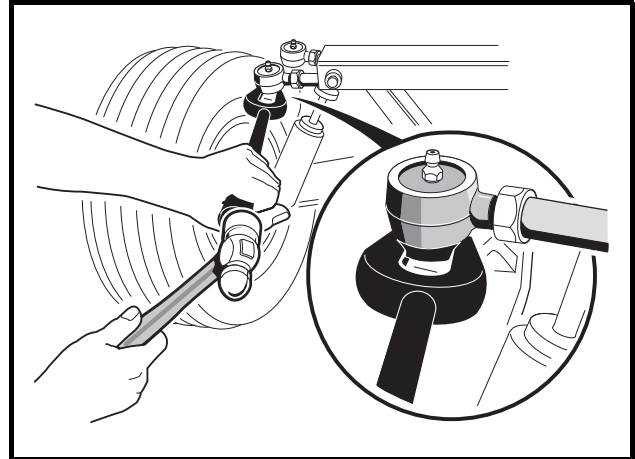
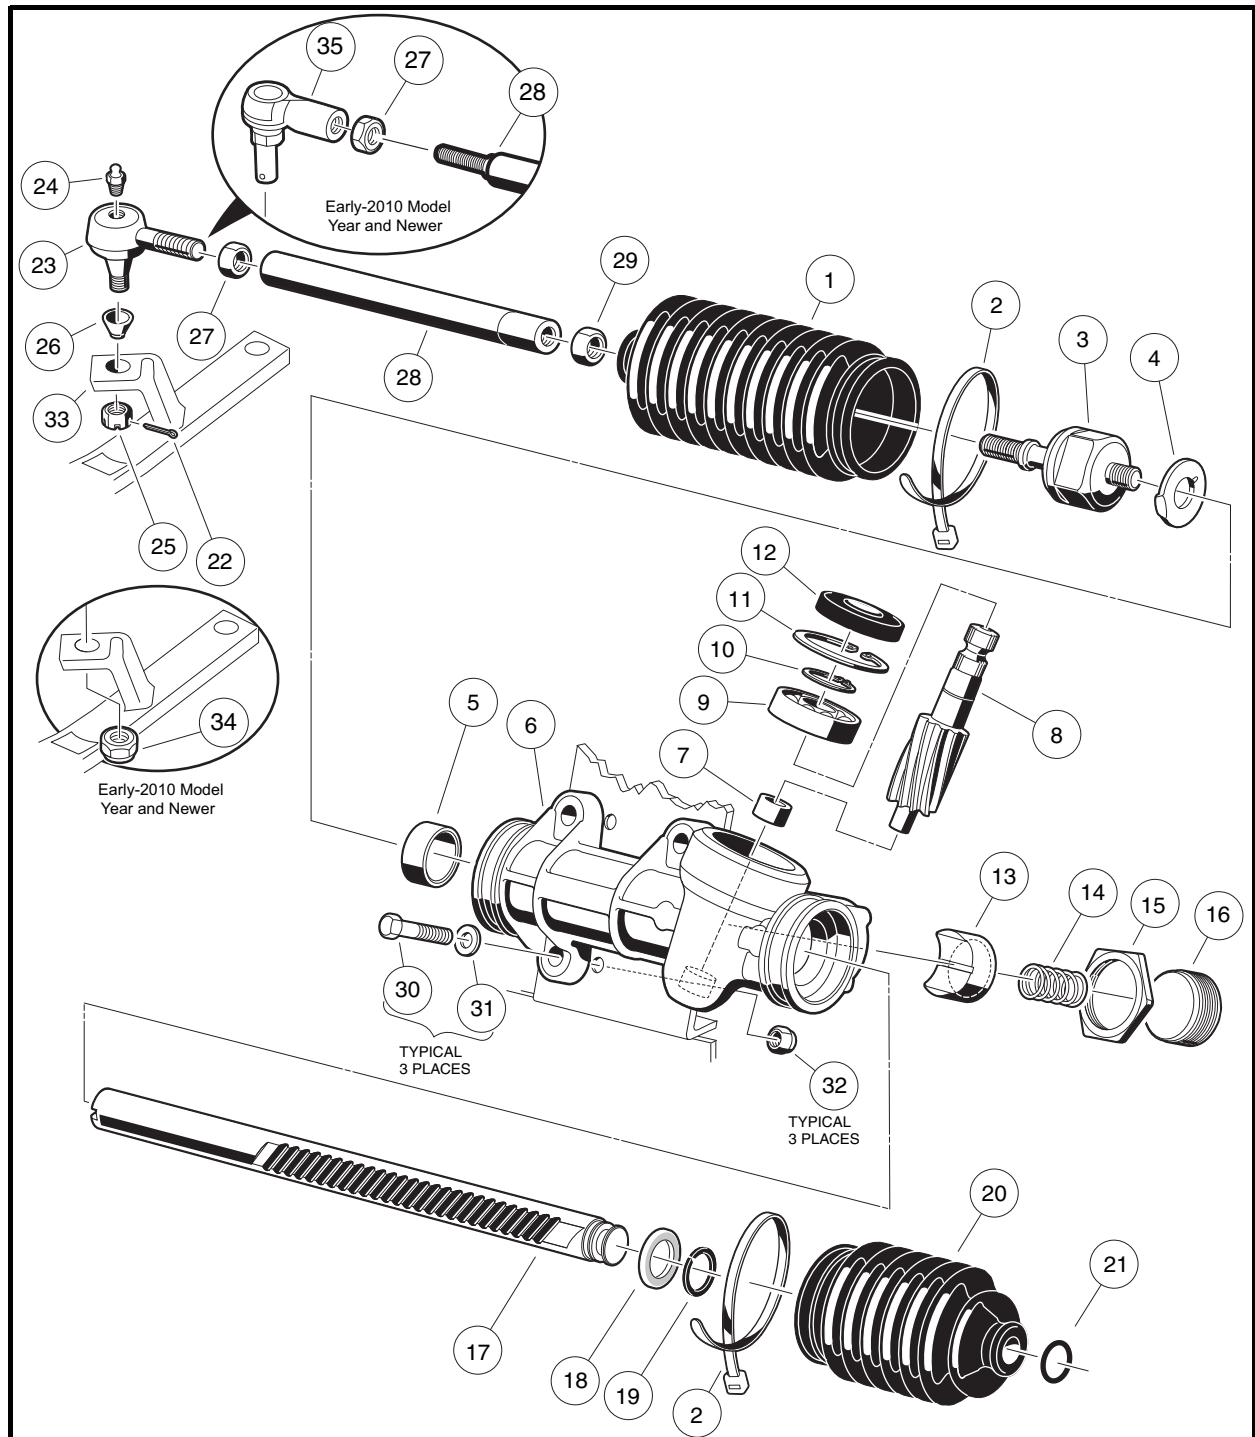
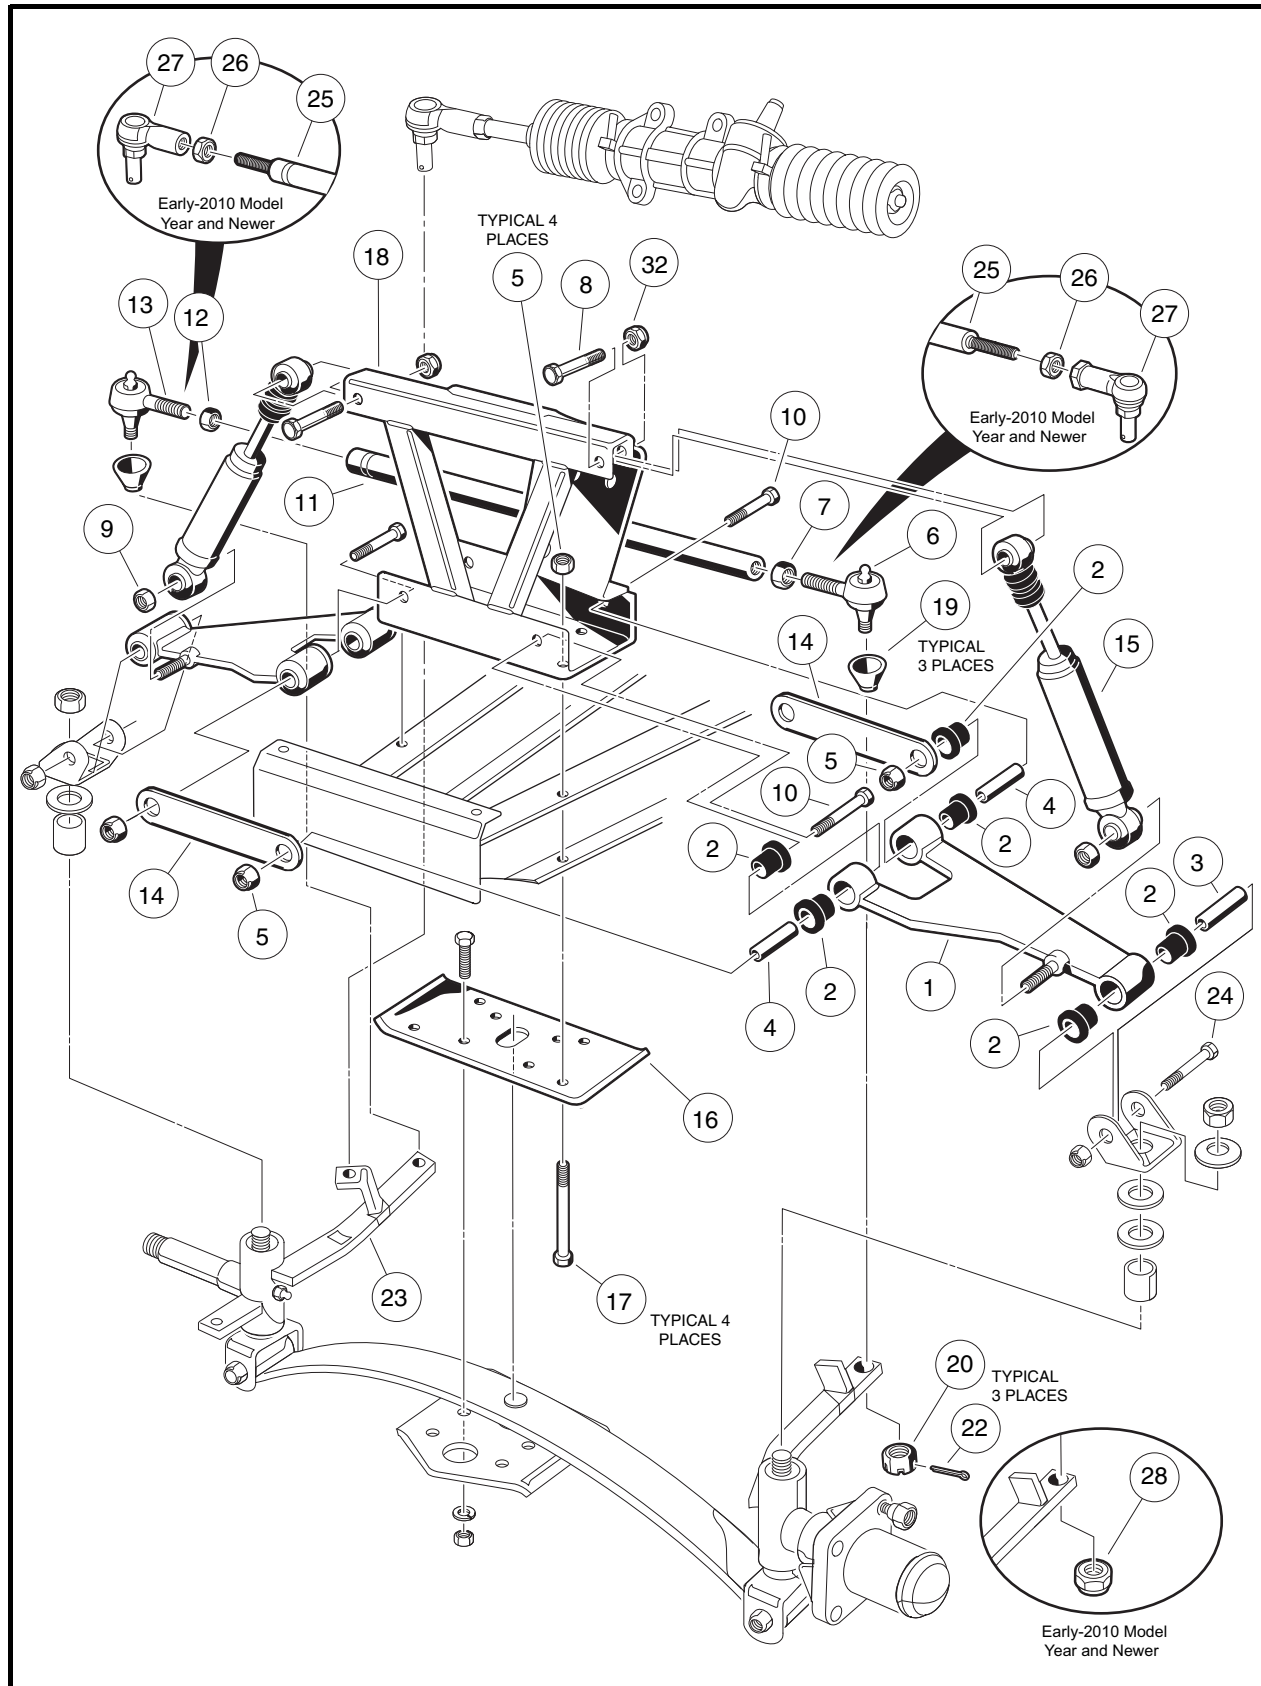
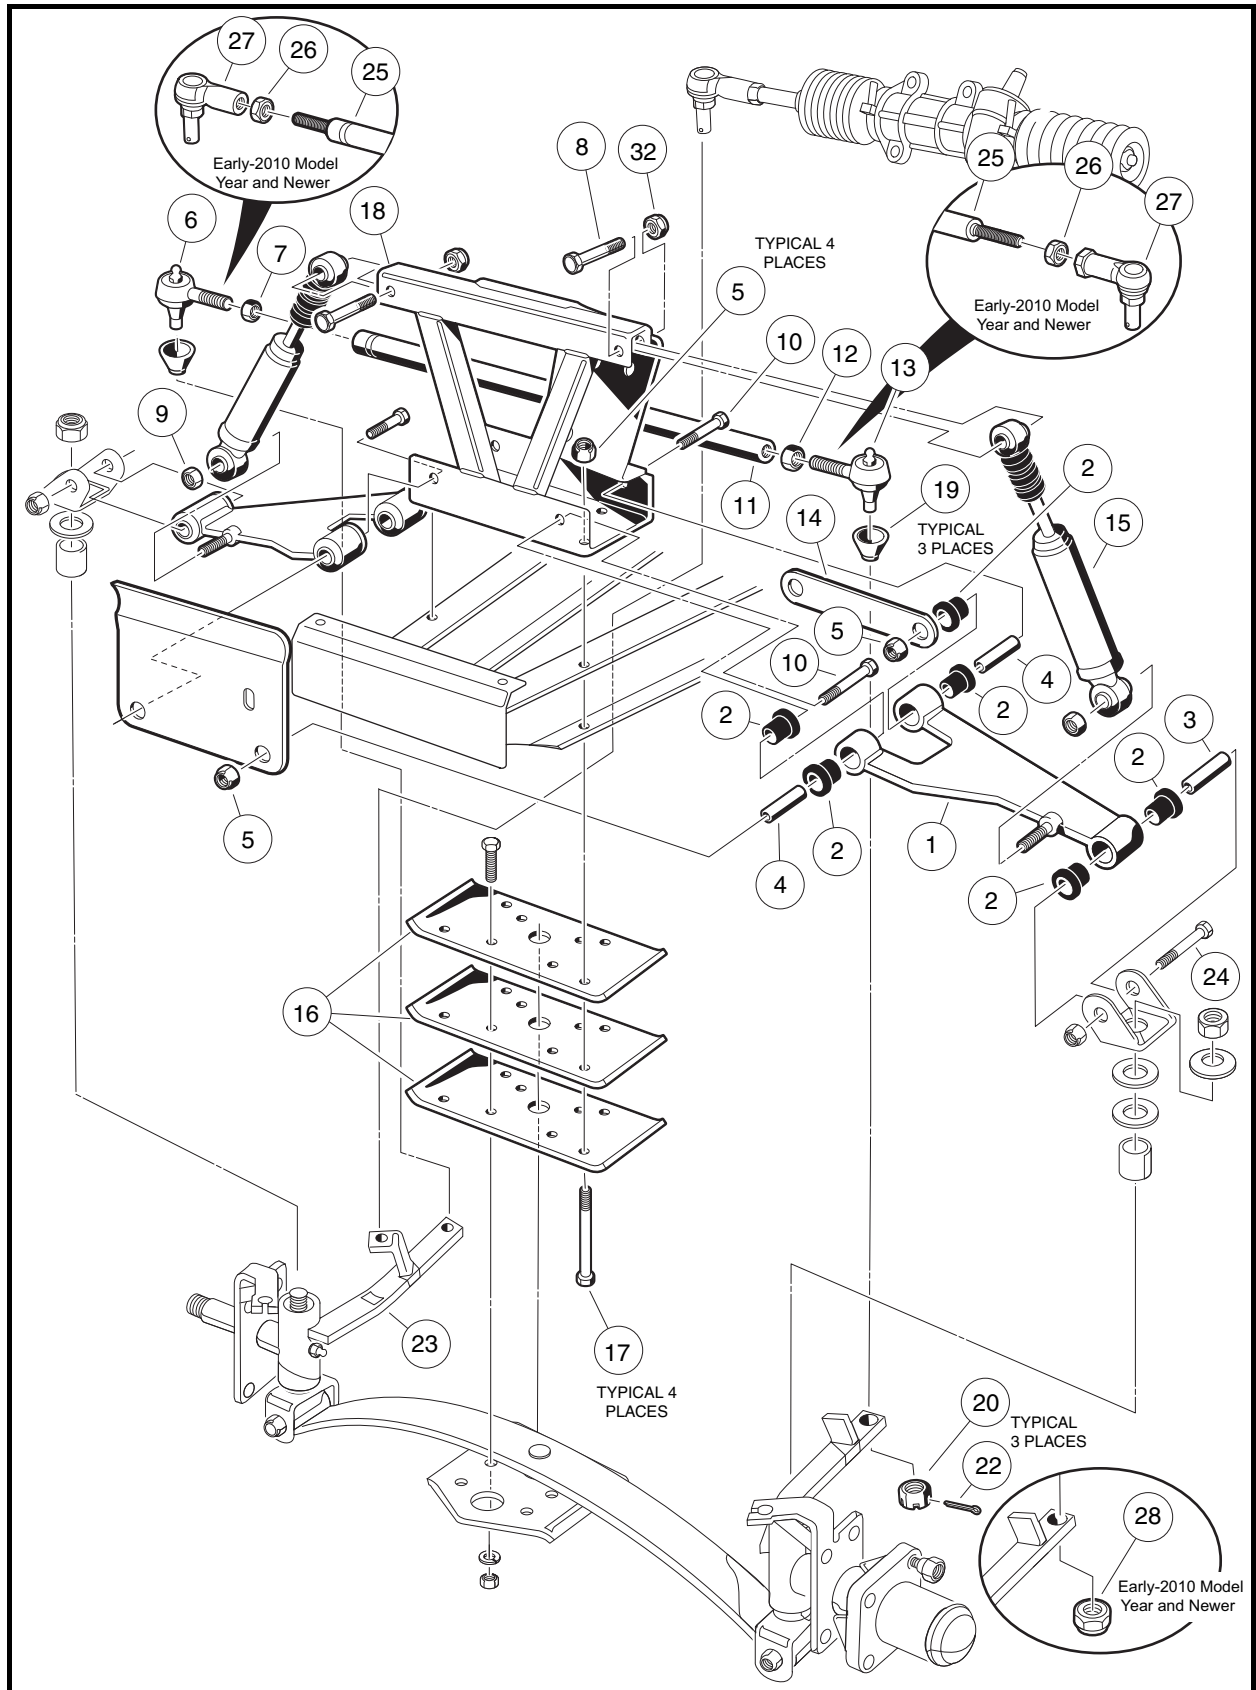

Figure 7-8 Ball Joint Tool – 2008 to Early 2010 Model Year
Figure 7-9 Steering Gear
Figure 7-21 Two-Wheel Brake Vehicle – Upper Portion
Figure 7-23 Four-Wheel Brake Vehicle – Upper Portion
2. Loosen the nuts (27 and 29) and turn the drag link (28) (**Figure 7-9, Page 7-9**) to adjust the drag link rod. Adjust the link rod with the steering wheel turned all the way to the right, so the passenger side spindle stop lightly touches the passenger side A-plate. The internal stop on the rack must reach its limit of travel at the same time the spindle stops against the passenger side A-plate (with vehicle wheels turned to the right). **See following CAUTION.**
3. When all adjustments have been completed, tighten the nuts (27 and 29) on the drag link assembly with an open end wrench. Tighten nuts to 21 ft-lb (28.4 N·m) (**Figure 7-9, Page 7-9**). **See following CAUTION.**
- **When tightening the nuts (27 and 29), make sure the drag link (28) does not turn (Figure 7-9, Page 7-9).**
- ball joints (23 or 35) (**Figure 7-9, Page 7-9**) and (6, 13 or 27) (**Figure 7-21, Page 7-20 or Figure 7-23, Page 7-22**)
- rack assembly (17) (**Figure 7-9, Page 7-9**)
2. For 2008 to early-2010 model years: Remove the cotter pin (22) and ball joint retaining nut (25) (Figure 7-9, Page 7-9).
- 2.1. Using a ball joint removal tool, remove the ball joint (23) (Figure 7-9, Page 7-9) from the spindle (33). See Figure 7-8, Page 7-8.
3. **For early-2010 model year and newer:** Remove ball joint retaining nut (34) and remove ball joint (35) from spindle (33) (Figure 7-9, Page 7-9).
4. Remove the bolts (30), washers (31), and lock nuts (32) from the steering rack assembly mounting bracket (Figure 7-9, Page 7-9).
- The ball joint (23) (Figure 7-9, Page 7-9) has left-hand threads.
1. Remove ball joint from the spindle and inspect it for excessive wear (Figure 7-8, Page 7-8).
2. Remove the drag link (28) (Figure 7-9, Page 7-9).
3. Remove both bellows clamps (2) (plastic wire ties).
4. Remove the hex nut (29) and slide off the dust seal bellows (1).
5. Remove the retaining ring (21), then slide off dust seal bellows (20).
6. Remove the rack screw lock nut (15), rack guide screw (16), rack guide pressure spring (14), and the rack guide (13) (Figure 7-9, Page 7-9).
7. Remove the universal joint assembly from the pinion (8) by fully removing the bolt and then sliding off the universal joint.
8. If necessary, remove the dust seal (12). **See following NOTE.**
**NOTE:** If the dust seal (12) is removed, replace with a new one.
9. Use snap ring pliers to remove the internal snap ring (11) (Figure 7-9, Page 7-9).
11. If the ball bearing (9) has been damaged, remove the external snap ring (10) (Figure 7-9, Page 7-9) and press the bearing off (Figure 7-11, Page 7-10).
12. Remove retaining ring (19) and stop washer (18), then remove rack (17) from housing (6) (Figure 7-9, Page 7-9).
14. Inspect the bushing (5) for excessive wear. If wear is excessive, replace the steering box assembly (CC P/N 101878302) (**Figure 7-9, Page 7-9**).
3. Apply a light coating of EP grease to the teeth of the rack (17), then slide the rack through the bushing (5) and housing (6). Install the stop washer (18) and retaining ring (19) to the end of the rack (**Figure 7-9, Page 7-9**).
4. If the bearing (9) was removed, press on a new bearing, exerting all pressure on the inner race (grease the bearing before installing it). Then install the external snap ring (10) (**Figure 7-9, Page 7-9**). **See preceding CAUTION.**
5. If the needle bearing (7) is damaged, the steering box assembly (CC P/N 101878302) must be replaced (**Figure 7-9, Page 7-9**).
6. Install pinion (8) and bearing (9) assembly into the housing (6) (**Figure 7-9, Page 7-9**). Make sure the rack gear teeth will mesh with the gear teeth on the pinion. The rack may need to be rotated slightly while lightly tapping on the pinion-bearing assembly with a rubber mallet. **See following CAUTION.**
7. Install the internal snap ring (11) (**Figure 7-9, Page 7-9**).
9. Apply a small amount of grease to the rack guide (13) where it comes into contact with the rack (17) (**Figure 7-9, Page 7-9**).
10. Place a few drops of Loctite® 222 to the threads of the screw (16) (**Figure 7-9, Page 7-9**).